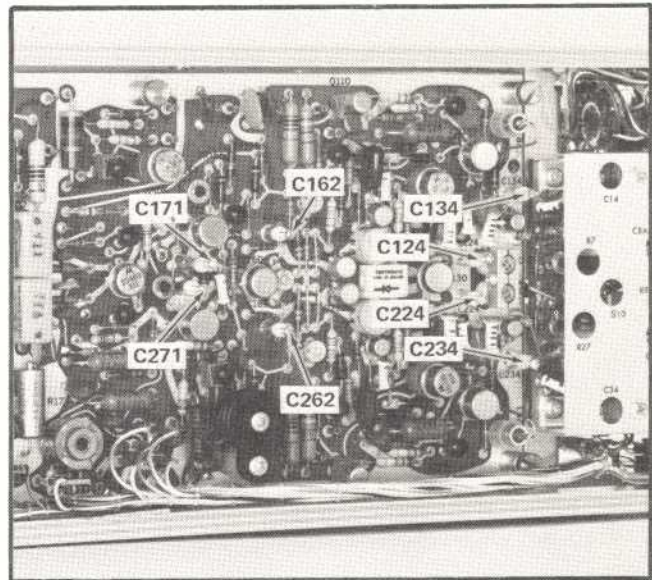

Fig. 5-22. Locations of adjustments on the Input board for the Common Mode Rejection Adjustments procedure.
h. ADJUST—C171, C271, C162, C262, C124 and C224 (see Fig. 5-22) to reduce the display amplitude.
Next, adjust either C134 or C234 (see Fig. 5-22) by turning the slug clockwise several turns. Then, readjust C124 and C224 for minimum display amplitude. If the minimum amplitude thus obtained is not less than the amplitude obtained before C134 or C234 was adjusted, turn C134 or C234 slug (whichever was previously adjusted) to a position that is further outward than the original position. Readjust C124 and C224 for minimum amplitude.
l. INTERACTION—Repeat steps 20a through 20i using the 1-volt 10-MHz signal. Readjust C134 or C234 (see Fig. 5-22) and R167 (see Fig. 5-6) a slight amount to obtain minimum amplitude. The procedure and all adjustments given in step 20 may need to be readjusted several times to obtain the best compromise between the display amplitude obtained using the 10-MHz signal and the one obtained using the 1-MHz signal.